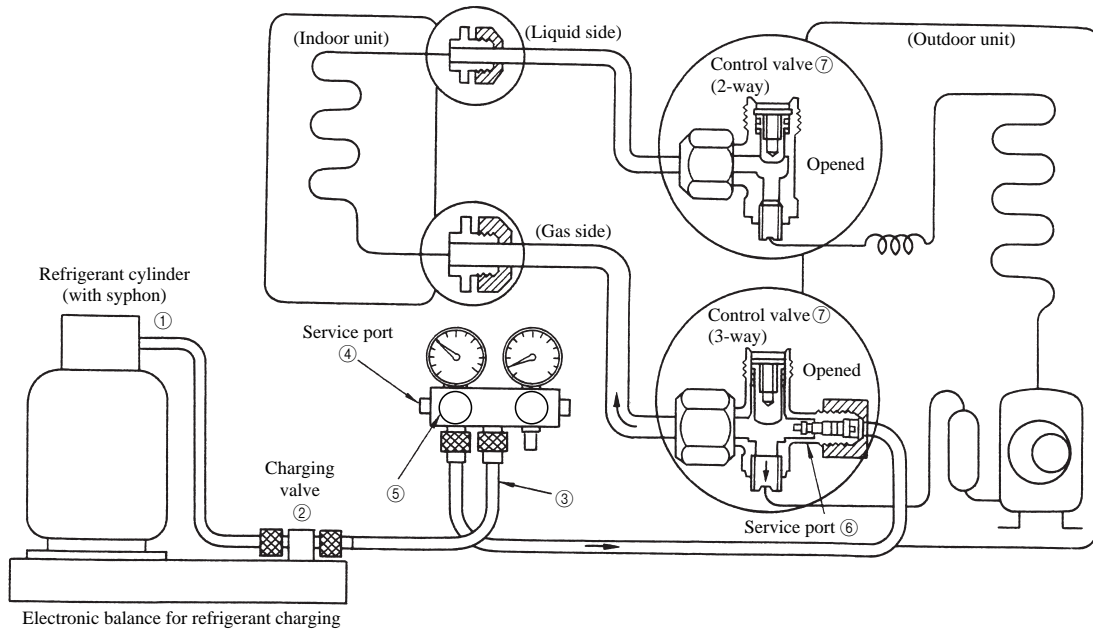

Fig.7 Configuration of additional refrigerant charging
- (2) Additional refrigerant charging required for refrigerant piping length longer than standard length (The following steps should be taken following the step e) in (1) above. See Fig. 7)